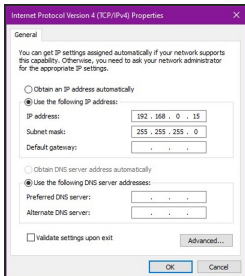

Figure 7
9. Set the following settings. (Figure 7)